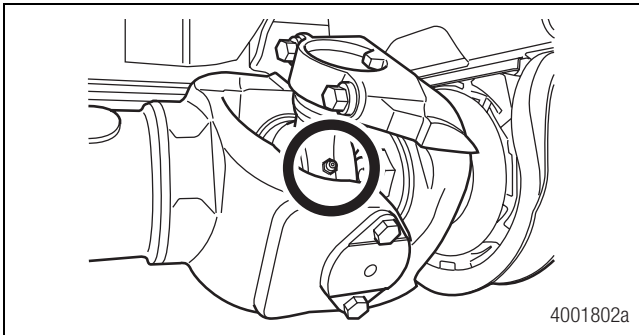

Figure 3.4
1. Check that all grease fittings are installed. Replace missing or damaged fittings. Tighten them to 6 lb-ft (8 N•m). Figure 3.4. **ⓘ**